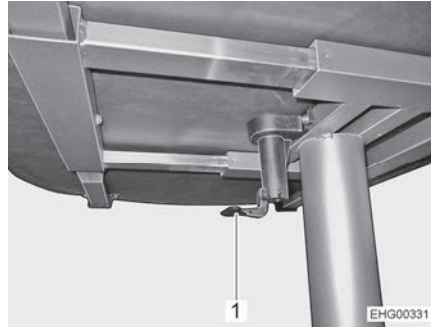

Fig. 60 Lift-off table
- Fold the lever of the central table lock (Fig. 60,1) downwards.